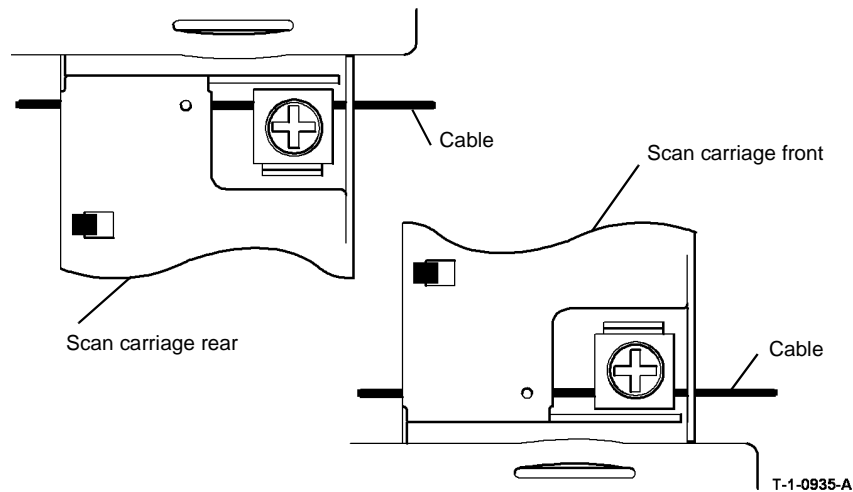

Figure 4 Cable clamps
13. Slide both carriages fully to the right, and install the cable clamps so the cable are under the clamps as shown in Figure 4.